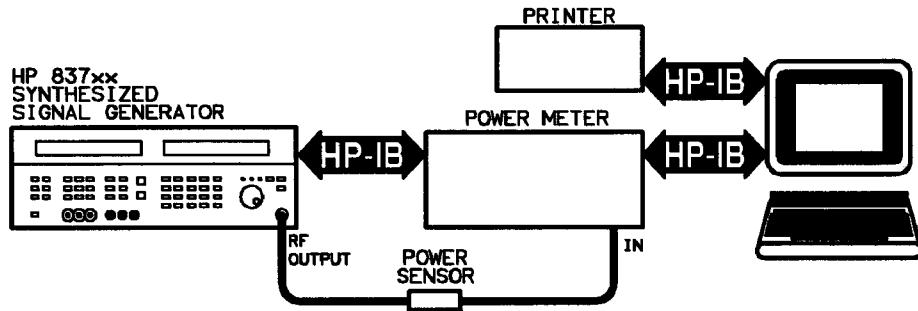

Figure 7-3. 1—20 GHz Frequency Calibration Equipment Setup
2. Set up the equipment as shown in Figure 7-3.